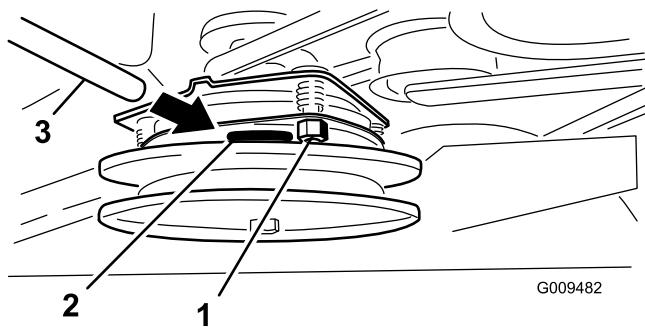

Figure 61
3. Tighten the lock nuts until there is slight binding on the feeler gauge, but it can be moved easily within the air gap (Figure 61).